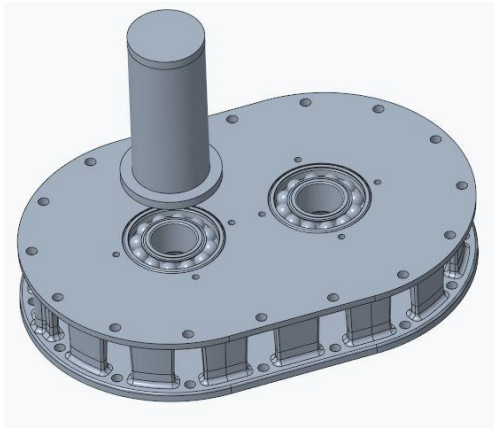

Fig. 2
5. Use a brass hammer to install dowel pins (7) into the NDE side plate (23).
6. Repeat steps 2-5 for the DE side plate (4).
7. Install 4 M10X1.5X90mm bolts through the NDE side plate (23) to the main body (22) to hold the position.
8. Attach an M14X2 eye bolt to the DE of the rotor shaft (14). Use a lifting device to place the rotors into the main body (22) until the edge of the rotor is in contact with the NDE side plate (23).
9. Carefully place the DE side plate (4) onto the main body (22) without damaging the seals mounted in the DE side plate (4). Install 4 M10X1.5X80mm bolts through the DE side plate (4) to the main body (22) to hold the position.
10. Verify that the writing side of double row ball bearing (32) is facing outward from the NDE side plate (23). Press double row ball bearing (32) into NDE side plate (23) using press tools 564-023, 564-024, and 564-025 as shown in figure 2.